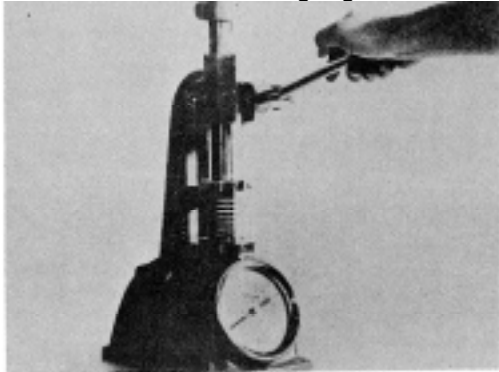

Fig. 6-1-15, F60163. Testing injector spring
2. Test spring tension on spring tester, Fig. 6-1-15, that is capable of very accurate measurements of spring lengths and applied load by means of standards and dial indicator gauge. Table 6-1-4